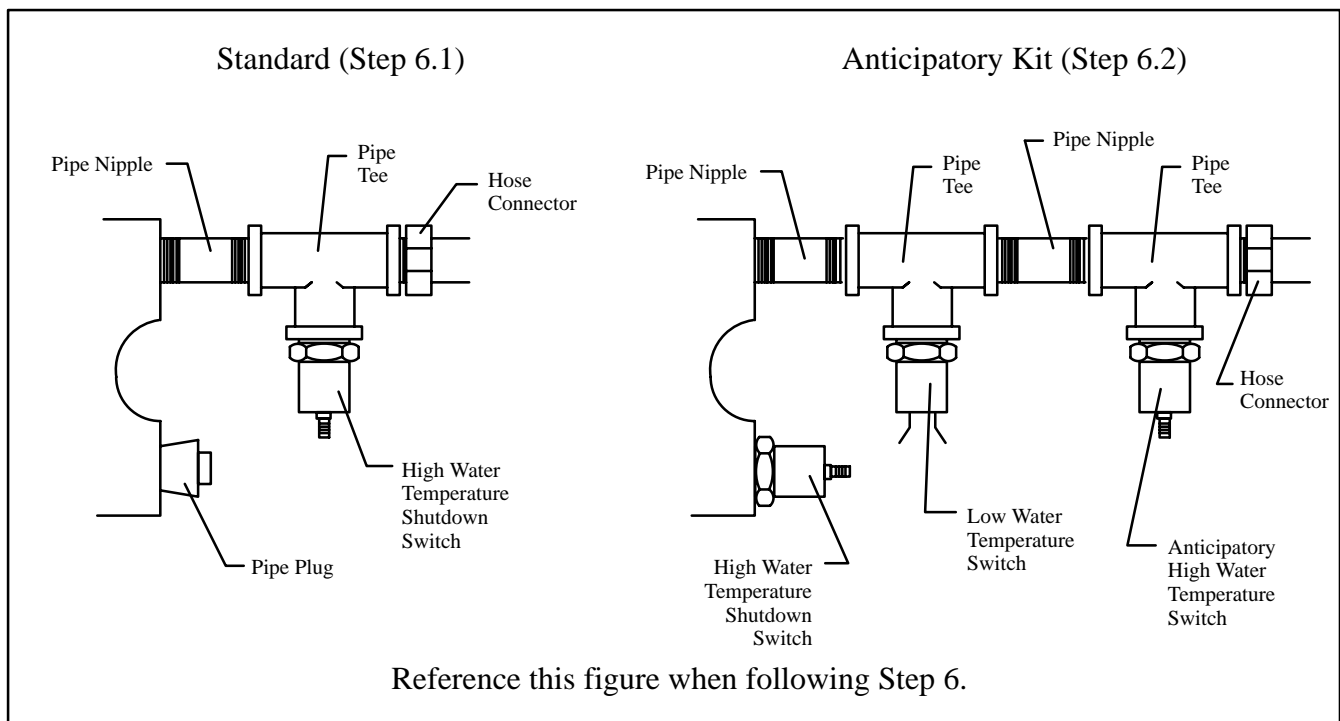

Figure 4.
When switches are configured as shown in Figure 4, follow Step 6.
6.1 Relocating switches (**for units without anticipatory alarm kit**). See Figure 4.
- 6.2 Relocating switches (**for units with anticipatory alarm kit**). See Figure 4.